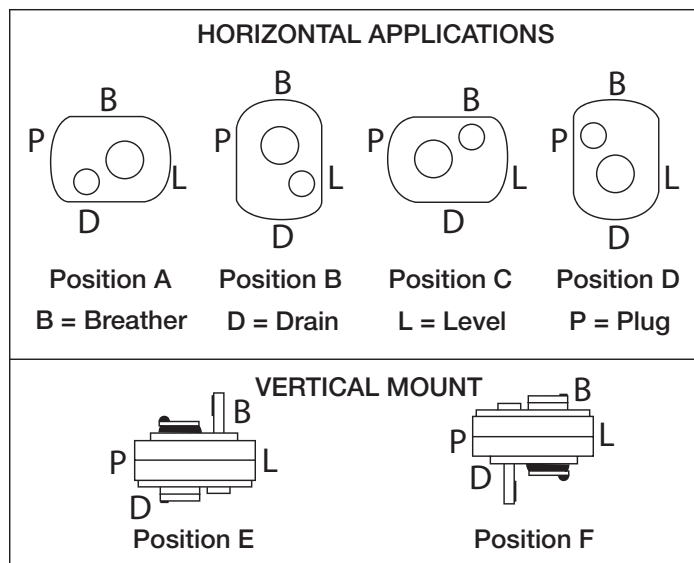

Fig. 1 – Mounting Positions
2. Determine the running positions of the reducer. (See Fig. 1)
The running position of the reducer in a horizontal application is not limited to the four positions shown in Fig. 1.
1. However, if running position is over 20° in position “B” & “D” or 5° in position “A” & “C”, either way from sketches, the oil level plug cannot be used safely to check the oil level, unless during the checking, the torque arm is disconnected and the reducer is swung to within 20° for position “A” & “C” or 5° for position “B” & “D” of the positions shown in Fig. 1. Because of the many possible positions of the reducer, it may be necessary or desirable to make special adaptations using the lubrication filling holes furnished along with other standard pipe fittings, stand pipes and oil level gauges as required.
† Refer to Figure 1 for mounting positions.
Note: If reducer position is to vary from those shown in figure 1, either more or less oil may be required. Consult Dodge. If output is less than 15 RPM, consult Dodge.